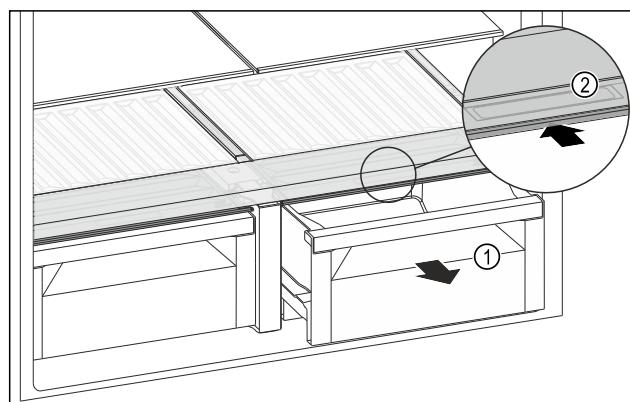

Fig. 139
- Pull out the drawer Fig. 139 (1).
- Grasp the recessed grip Fig. 139 (2) on the compartment lid and push the compartment lid backwards at the same time.